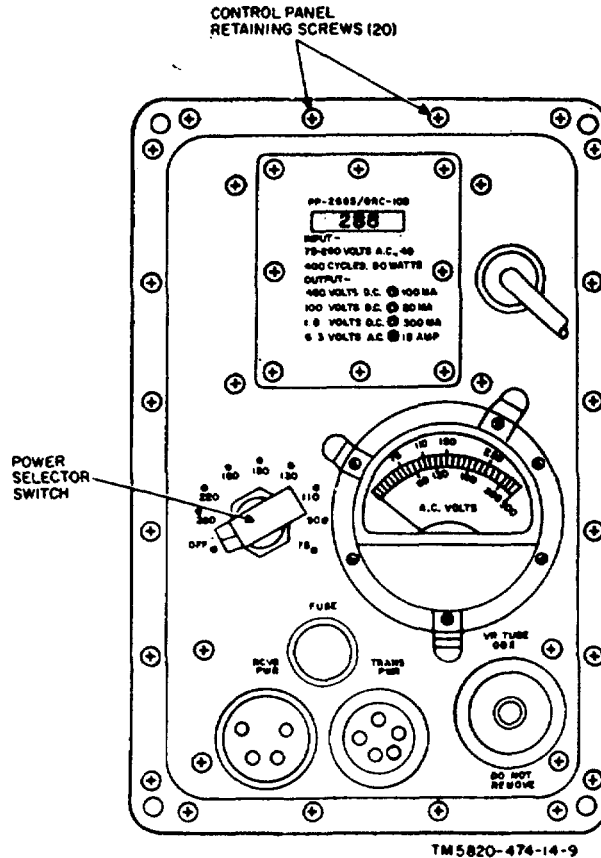

Figure 11. Power Supply PP-f686/GRC-109, front panel,
d. Power Supply PP-2685/GRC-109 (fig. 11).